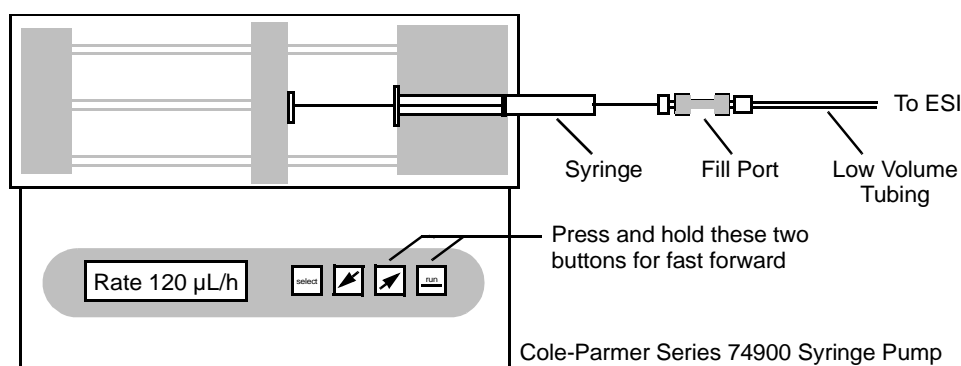

Figure 3-8 Connecting the Syringe Pump to the ESI Source
1. Fill a 100 to 250 μL syringe with the ESI solvent and position it in the syringe pump (Figure 3-8).
3. Connect the syringe with the sample inlet of the off-axis sprayer using low volume, clean tubing and fittings (Figure 3-8).